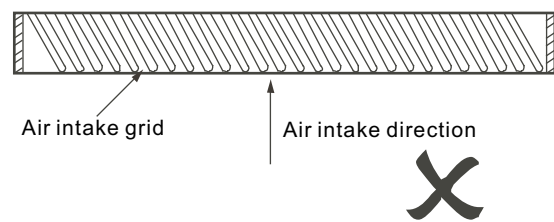

Figure 3.4
2) There shall not any angle between the air grid angle and the air intake direction. Otherwise, it may increase the noise. Figure 3.4 is the incorrect making method of the air intake grid.